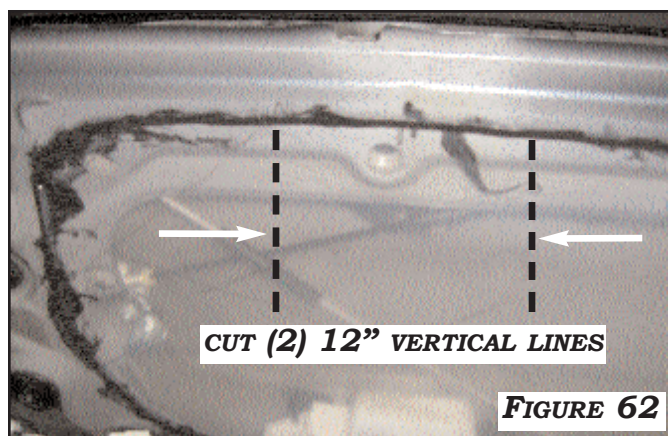

FIGURE 62
3. MAKE (2) 12" VERTICAL CUTS INTO PLASTIC AND LET FOLD DOWN AS SHOWN IN **FIGURE 62** TO ACCESS THE FACTORY CAMERA CONNECTOR.